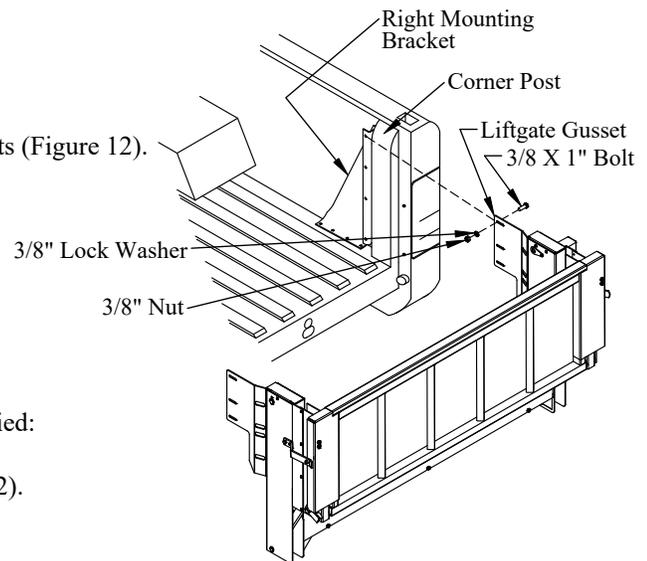

Figure 12: Mounting bracket and liftgate.
2. **Position** the mounting brackets into the truck bed in front of the corner posts (Figure 12). Do not drill holes for mounting brackets at this time.
- (3) 3/8"x1" hex head bolts on the bracket-side (Figure 12).
- (3) 3/8" lock washers, and (3) 3/8" nuts on the gusset-side (Figure 12).